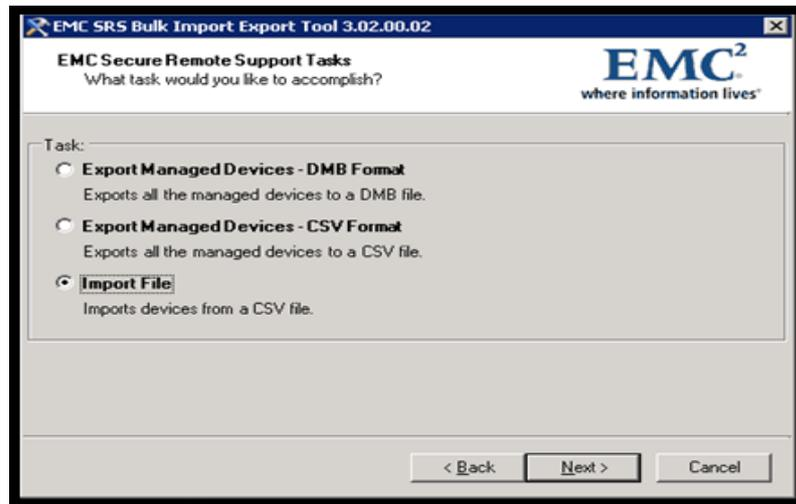

Figure 118 Import File
- c. This option, as shown in Figure 118 on page 103, permits the import of a CSV formatted file to generate as a DMB Request file (XML format) that can be used on the SRS2 Gateway or the SRSv3 as a DMB Request file (XML format). It can then be used to do a bulk deploy of devices to an SRS2 Gateway or to the SRSv3. You may now copy this file to any of the following: